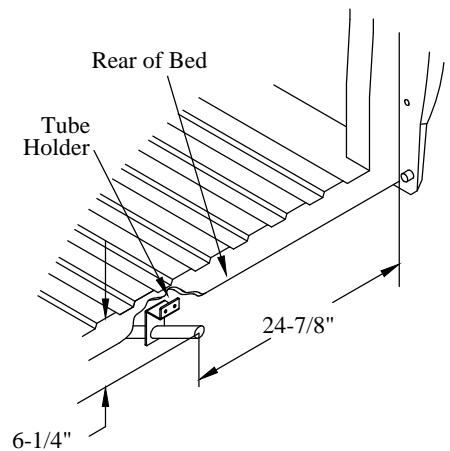

Figure 9: Tube holder finished location.
2. **Mark** two (2) 1/4" hole locations on the truck body.
3. **Check** for obstructions and **Drill** two (2) 1/4" holes in the positions marked in previous step.
4. **Position** the supplied spare tire tube holder on the rear inside lip of the bed (Figure 9).
5. **Fasten** the tube holder with the supplied two (2) 1/4"x3/4" bolts and locking nuts.
6. **Verify** that the spare tire crank tube is positioned to the dimensions in (Figure 9).